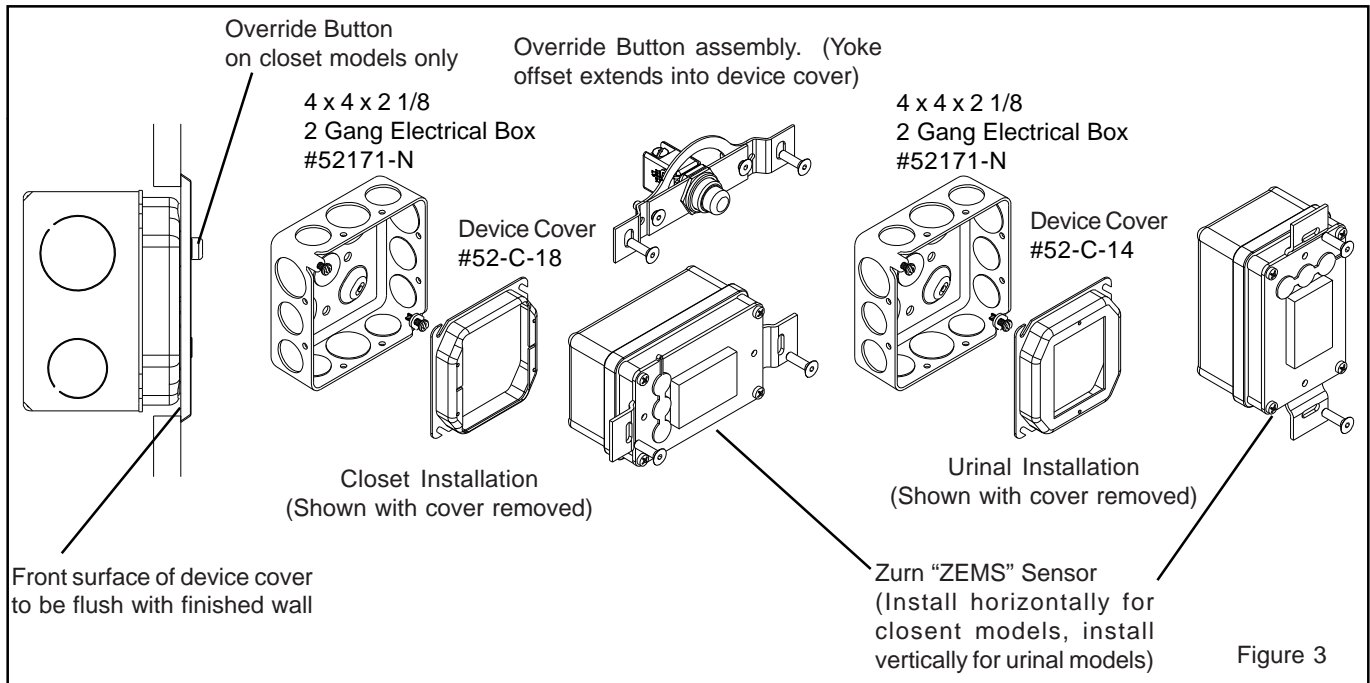

Figure 3
Closet Models: Install plaster ring so screw holes are on left and right side of box (as shown in Figure 3). Trim tiles to allow screw holes in plaster ring to show.
Urinal Models: Install reducing cover so screw holes are on top and bottom side of box (as shown in Figure 3). Trim tiles to allow screw holes in plaster ring to show.
STEP 2 – Mount Automatic Sensor (Figure 3)